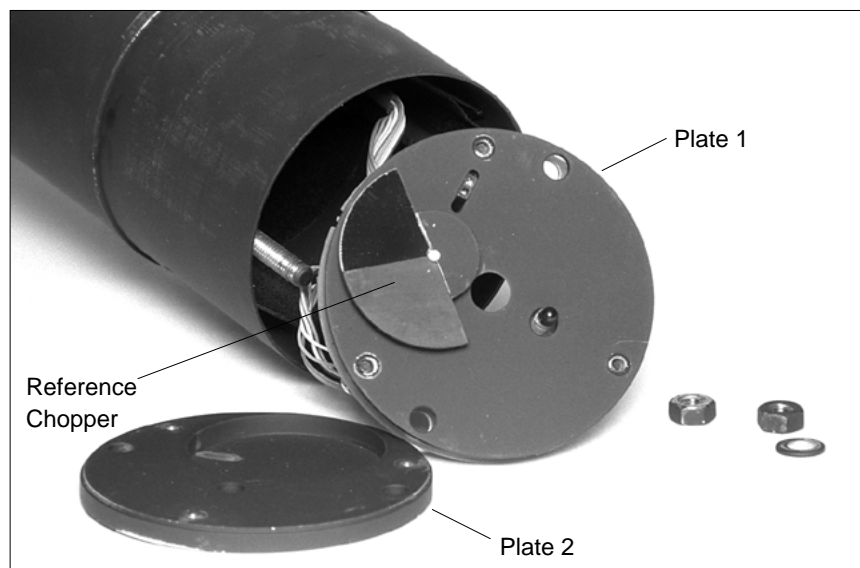

Figure 8-21
- c.** Separate plate 1 and circuit board from plate 2 and turn plate 1 so that the shutter is facing you (Figure 8-21).